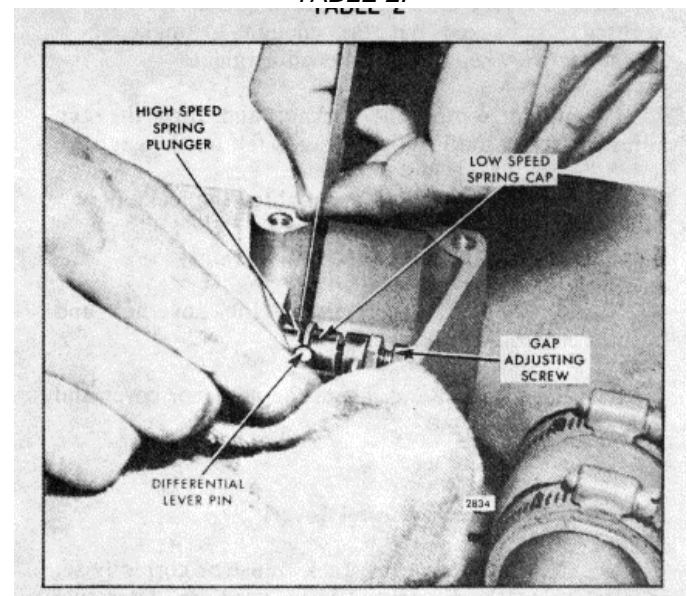

Fig. 1 - Adjusting Governor Gap - Double Weight
6. Check the gap between the low-speed spring cap and the high-speed spring plunger with a feeler gage (Fig. 1). The gap should be .002"-.004". If the gap setting is incorrect, reset the gap adjusting screw.